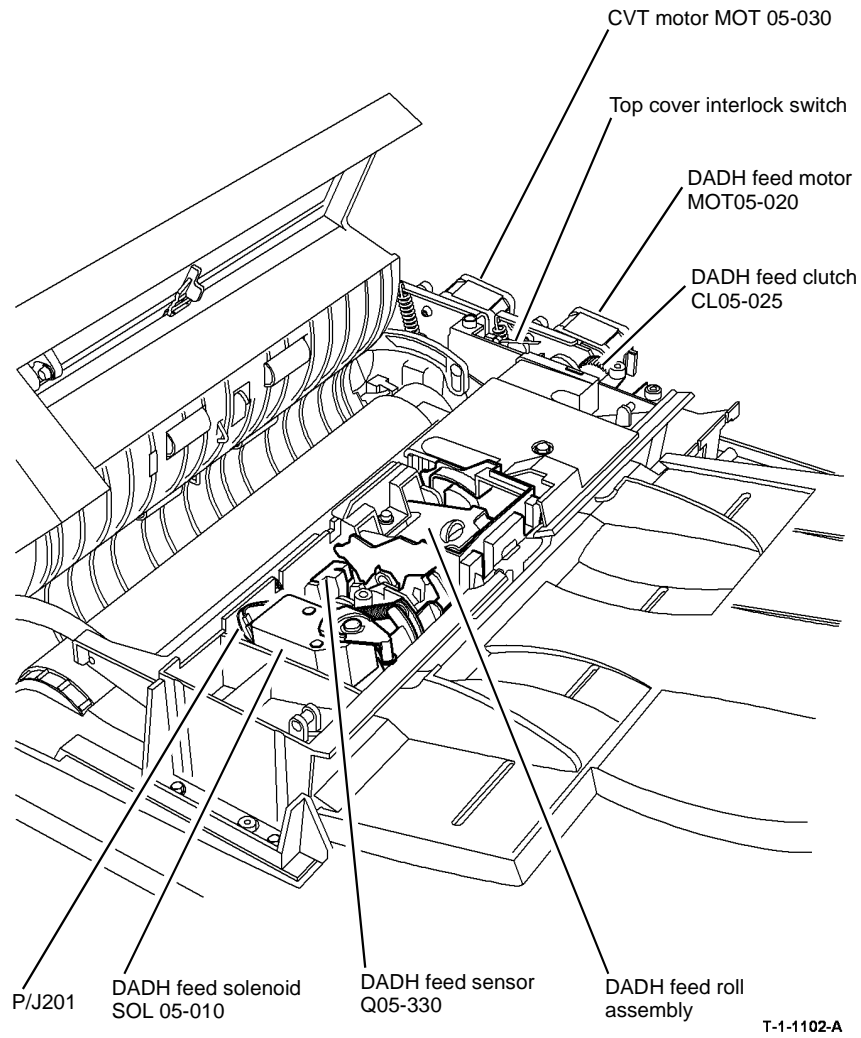

Figure 1 Component location
- **Figure 1**. Check that the feed roll assembly is installed correctly, go to **REP 5.14**.
- **Figure 1**. Make sure that the feed rolls are clean and rotate freely, refer to **ADJ 5.4**. If necessary, install a new feed roll assembly, **PL 5.17 Item 1** or feed roll assembly cover, **PL 5.17 Item 21**.